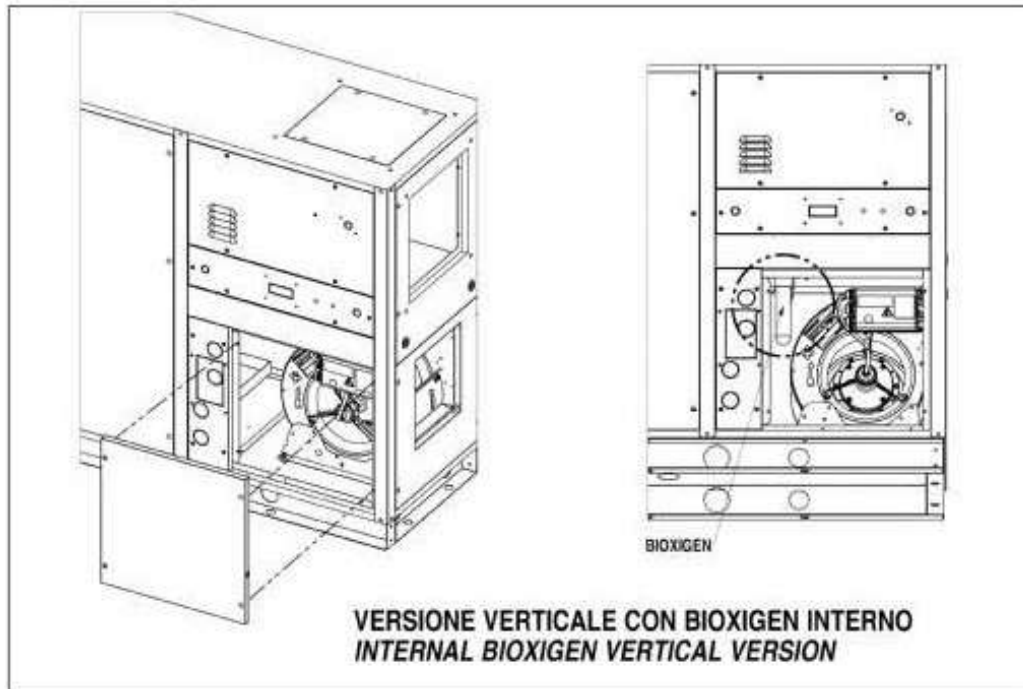

Fig.41
**VERSIONE VERTICALE (Fig. 41)**
**VERTICAL VERSION (Fig. 41)**